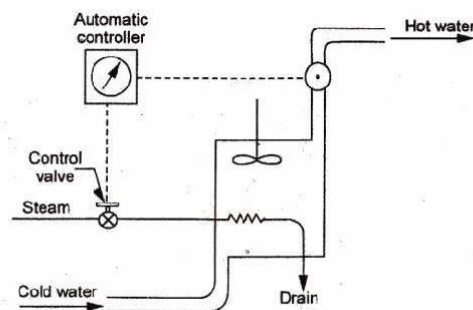

Fig. 15.9 Thermal system : automatic feed back control
12) In the automatic feed-back control of a thermal system (Fig. 15.9), the human operator has been replaced by an automatic controller. The actual temperature of the hot water is measured by a thermometer and is fed to the controller for comparison with the reference temperature whose value has been specified by appropriate, setting of the thermostat/regulator. Based on the error signal, the controller generates an output (correcting signal) which is taken to the control valve in order to change the valve opening for steam supply.